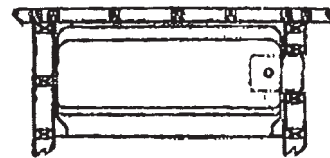

Fig. 2
2. The framing pocket must include an "access panel" to the drain and water supply connections through the floor. (Fig. 2 - dotted lines indicate section of the floor plate to be removed.) Some plumbing codes require an access panel to the supply side of the unit.